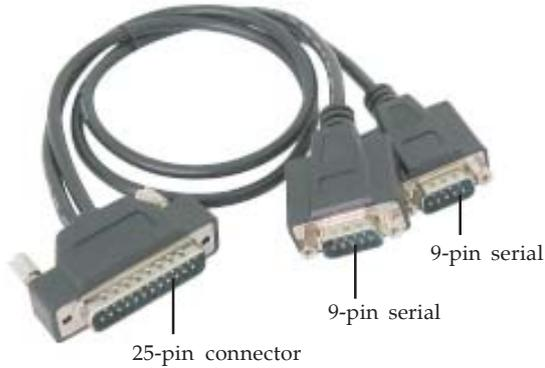

Figure 2. Fan-out cable
9. Connect the **2-port fan-out cable** to the board's **25-pin connector**. See **Figure 2** on page 3 for more details.